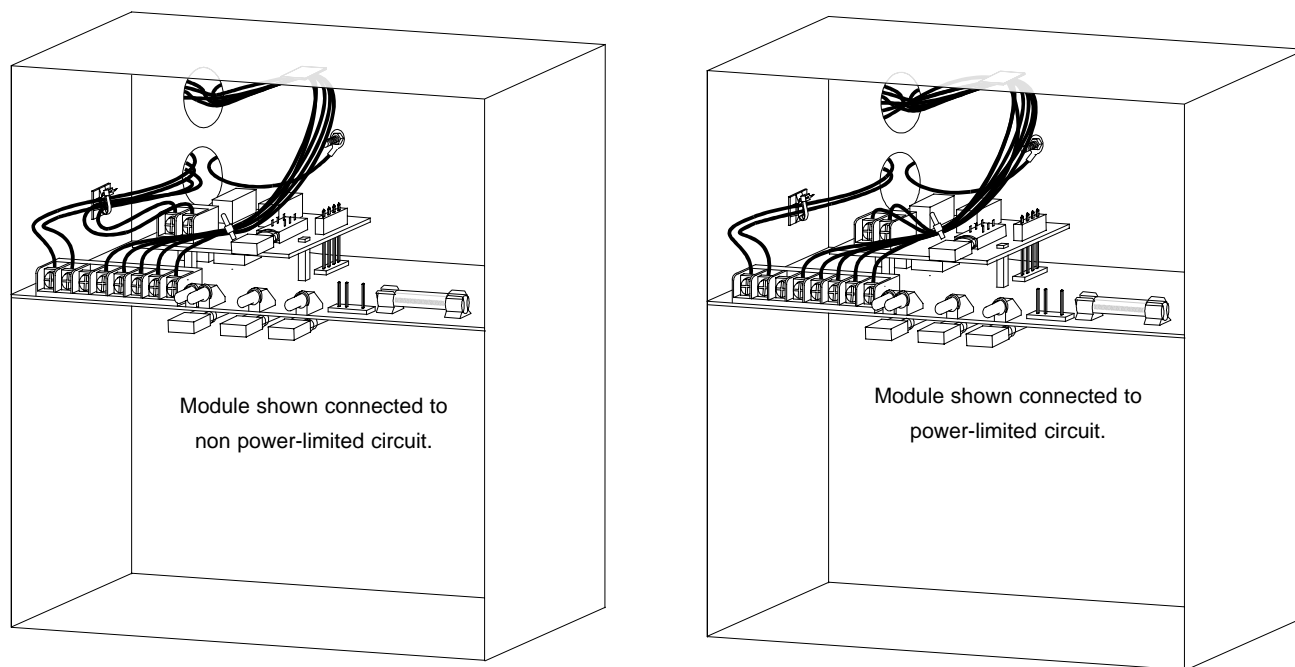

Figure 4.5: Typical wiring diagram for back knockouts
- For back knockouts, place the wire ties as shown in Figure 4.5.